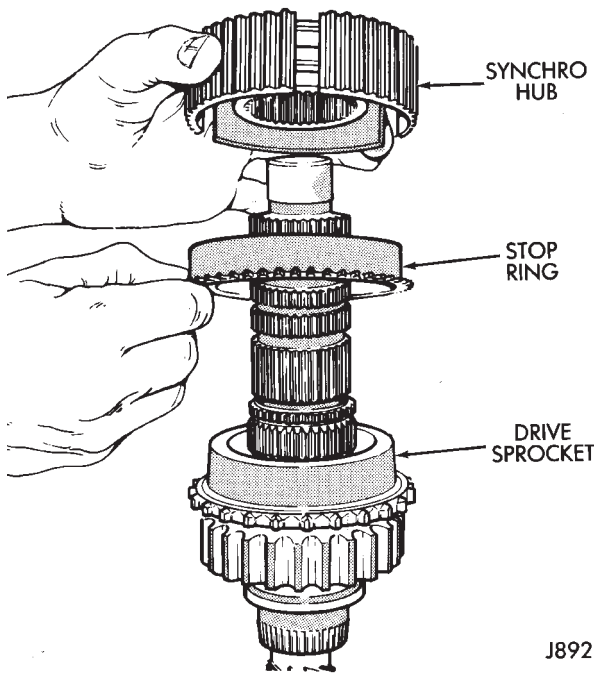

Fig. 50 Drive Sprocket, Stop Ring And Synchro Hub Installation
(30) Lubricate drive sprocket bearings, stop ring and synchro hub with automatic transmission fluid.
(31) Install sprocket, stop ring and synchro hub on mainshaft (Fig. 50). **Be sure to seat hub struts on stop ring lugs.**